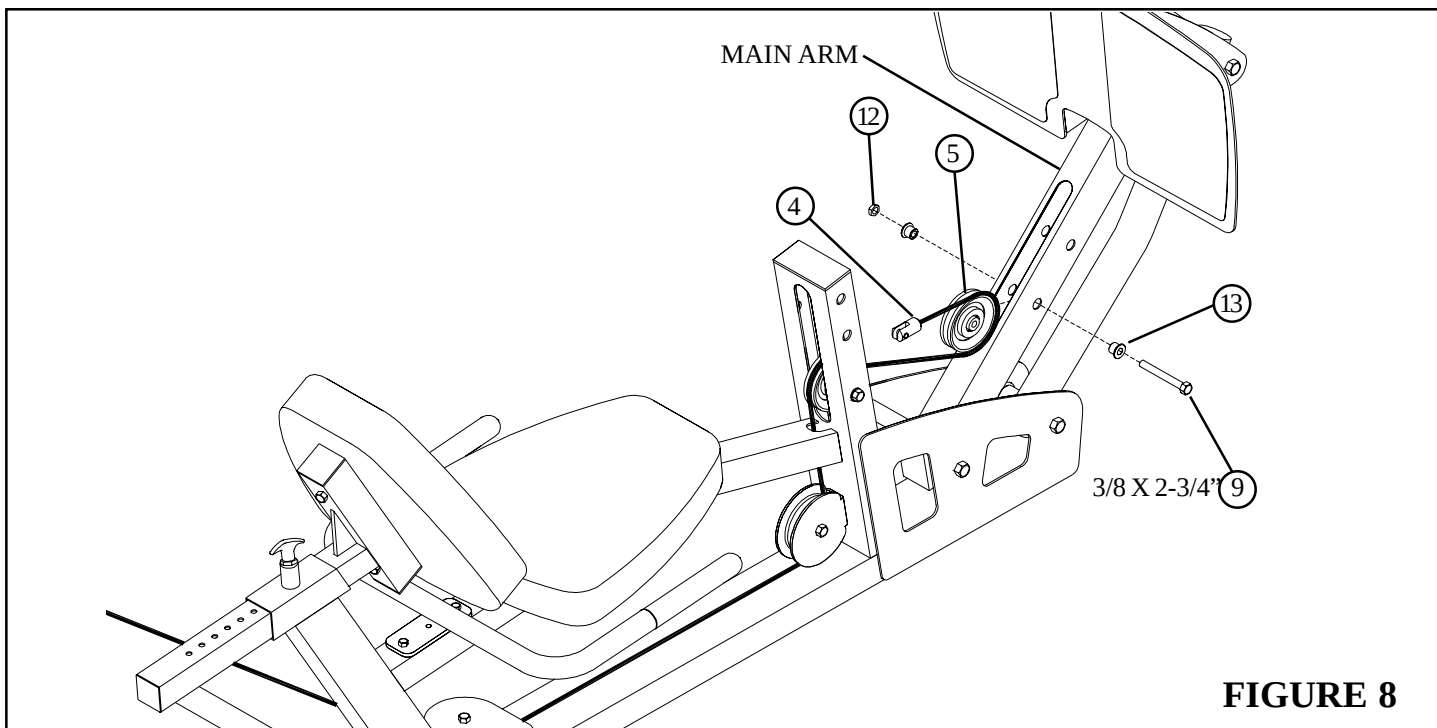

**FIGURE 8**
- Carefully route the LEG PRESS CABLE (4) around one 3-1/2" PULLEY (5) and **SECURELY** assemble the 3-1/2" PULLEY (5) to the MAIN ARM using one 3/8 X 2-3/4" BOLT (9), two STEP SPACERS 19/32" (13) and one 3/8" LOCK NUT (12) as shown in FIGURE 8. Make sure the CABLE is in the grooves of all the pulleys.